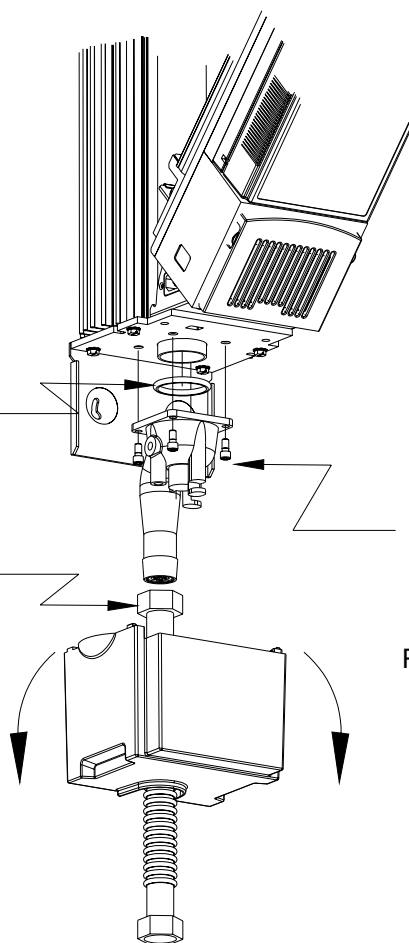

Figure 4D
Step 4: If the quartz is still not clean, it requires replacement. This is done by removing the bottom quartz seal assembly (see Figure 4D).
Step 6: Remove the quartz sleeve by removing the top and bottom O rings (37). Lift the quartz sleeve out of the unit.
Step 8: Replace the top and bottom O rings (37), keeping the quartz centered vertically in the unit.
Step 9: Replace the bottom quartz seal assembly (Figure 4D) by installing the four fasteners in an alternating pattern (top left, bottom right, bottom left, then top right) Ensure that the connection port is at the backside of the unit.